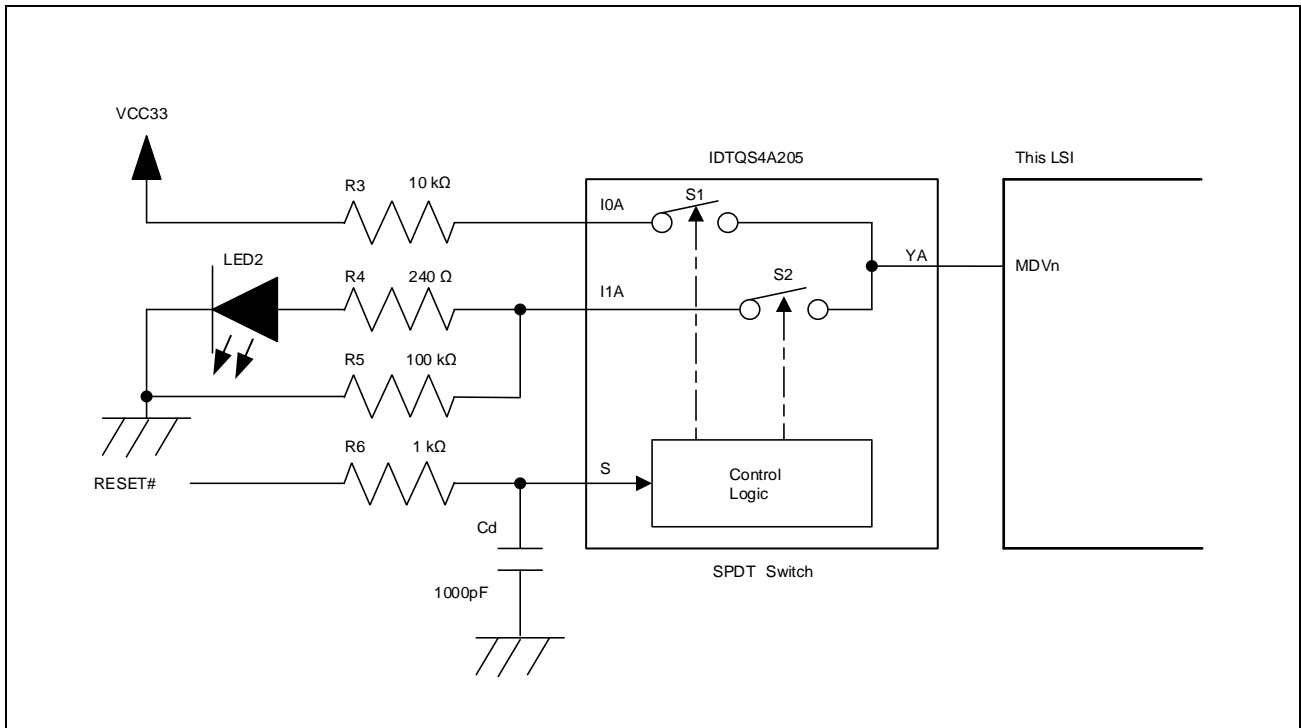
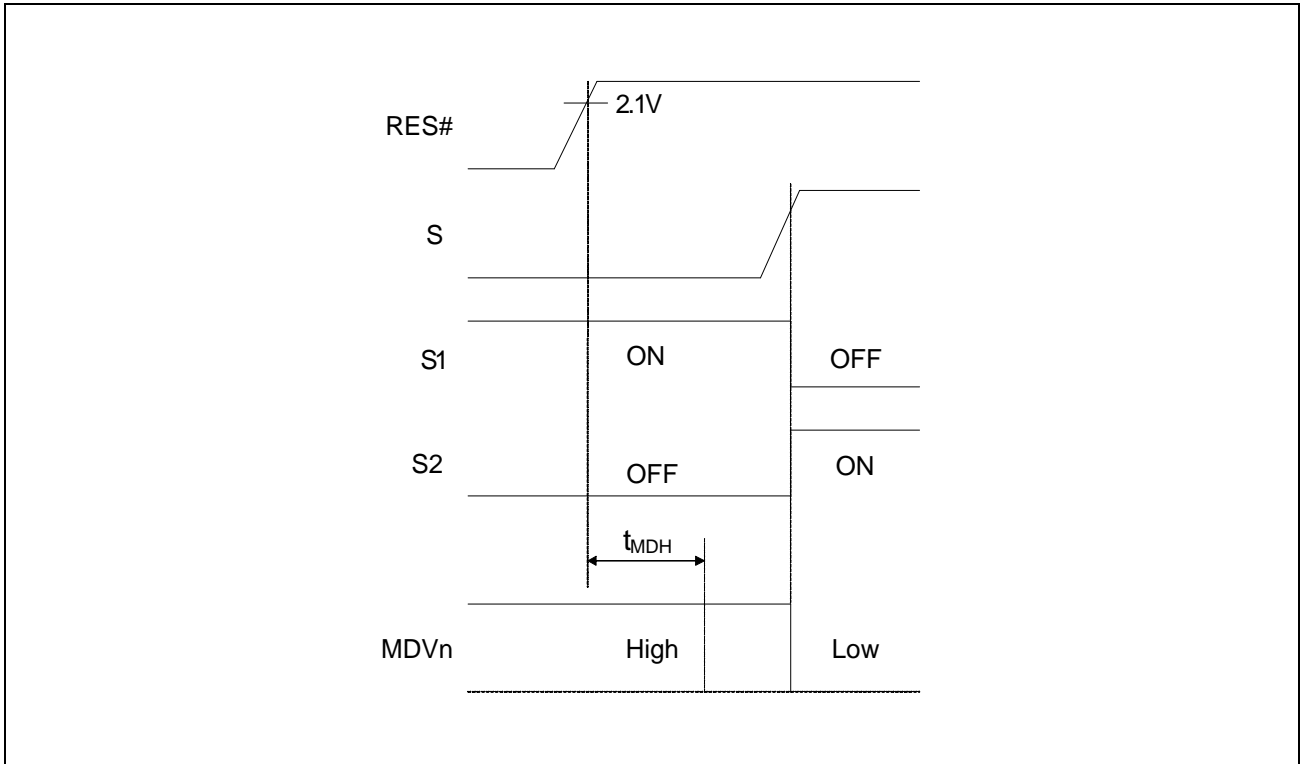

Figure 2.3 Example of the circuit for MDVn = High (3.3 V) setting
Figure 2.4 MDVn circuit timing chart for MDVn = High setting
**(2) Example of MDVn circuit for High setting**
**Figure 2.3** shows an example MDVn circuit for High setting, and **Figure 2.4** shows an example timing chart for this circuit example. In this circuit example, during reset (RESET# = Low), SPDT (Single Pole Double Throw) switch S1 is on, S2 is off, and MDVn is pulled high by pull-up resistor R3.